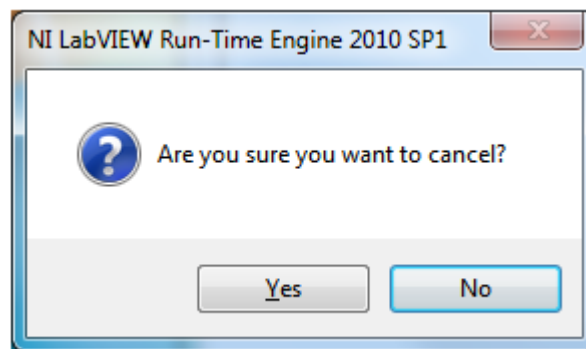

Figure 46. HMC-DAQ GUI Install: (LabView RTE Cancel, if Installed Already)
13. Press the Yes button to confirm, as in Figure 46.